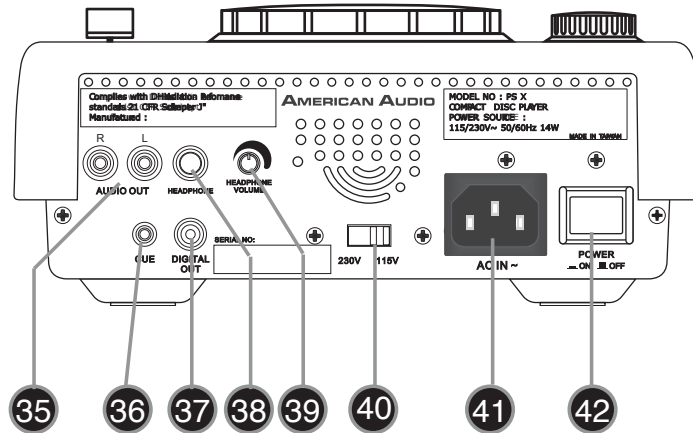

Figure 4
31. RELOOP BUTTON - If a SEAMLESS LOOP has been made (see setting a SEAMLESS LOOP on page 17), but the CD Player is not actively in SEAMLESS LOOP mode (a loop is not playing), pressing the RELOOP BUTTON will instantly reactivate the SEAMLESS LOOP mode. To exit loop, press the *OUT BUTTON (32)*. LOOP and RELOOP will appear in the *LCD DISPLAY (19)* when the RELOOP function is available.
32.OUT BUTTON - This button is used to set the ending point of a loop. A loop is started by pressing the *IN BUTTON (14)*, pressing the OUT BUTTON set the loop ending point. The loop will continue to play until the OUT BUTTON is pressed once again.
33. PITCH SLIDER - This slider is used to adjust the playback pitch percentage. The slider is a set adjustment and will remain set until the pitch slider is moved or the pitch function has been turned off. This adjustment can be made with or without a disk in the drive. The pitch adjustment will remain even if a disc has been remove and will reflect on any other disc loaded into the player. That is to say, if you set a +2% pitch on one disc, remove that disc and insert another, that disc too will have a +2% pitch. The amount of pitch being applied will be displayed in the *LCD (19)*.
B. REAR PANEL (FIGURE 4)